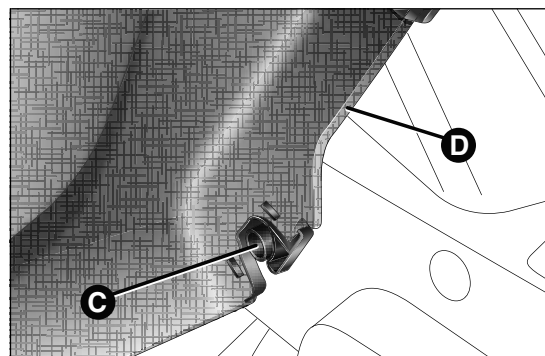

fig. 56
- ☐ free the pins C fig. 56 outside the shelf then remove the parcel shelf D sliding it off outwards;